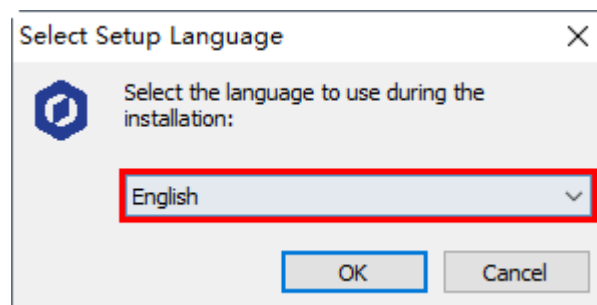

Figure 2.5 Select English
- Step 3** Choose a setup language such as **English**, as shown in Figure 2.5. You can also select **Chinese** if needed.